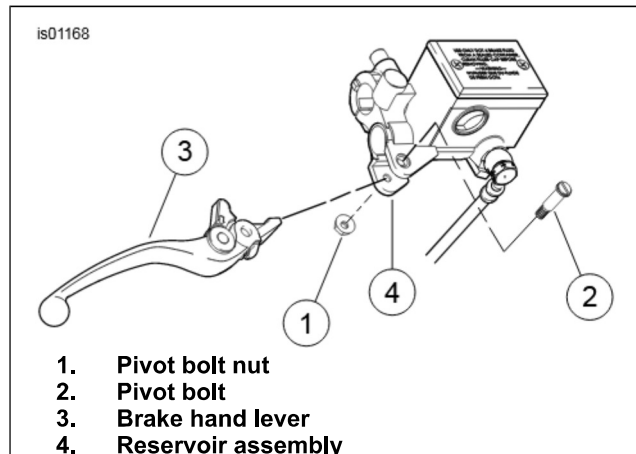

Figure 1. Brake Lever Components
1. See Figure 1. At the brake lever, remove pivot bolt nut (1) (metric) and pivot bolt (2) from brake hand lever (3). Remove brake hand lever from reservoir assembly (4).
2. Lubricate pivot bolt (2) with Loctite® Anti-Seize.
3. From the kit, install the new brake lever into the reservoir assembly (4) and install pivot bolt (2) through reservoir assembly and brake lever (3). Install pivot bolt nut (1) onto pivot bolt. Tighten to 9–14 N·m (80–120 in-lbs).